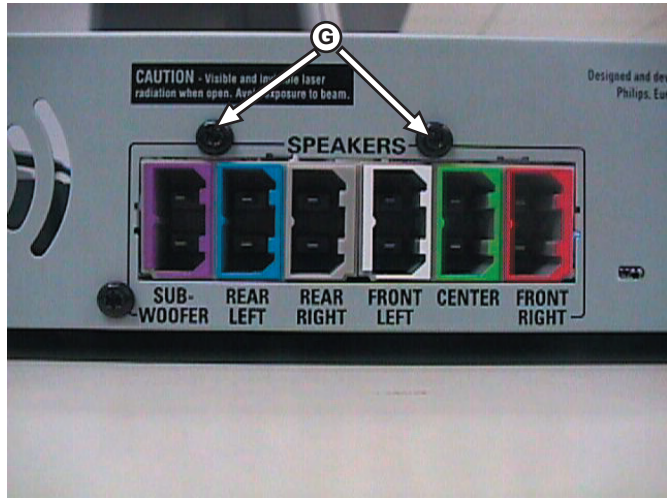

Figure 4-7
- 1) Loosen 4 screws F and 2 screws G (See Figure 4-7 & Figure 4-8) to remove Amp-Module Board.